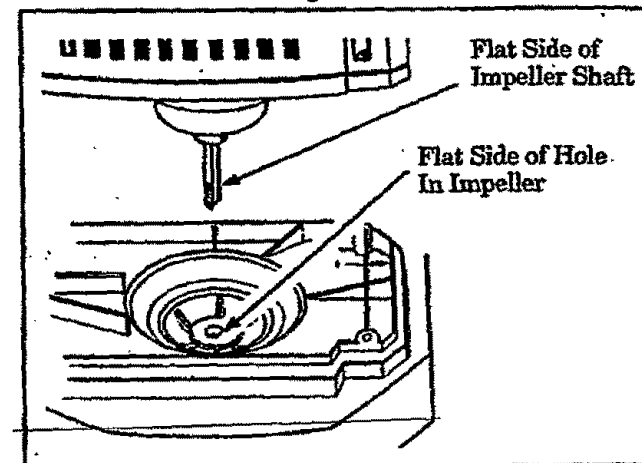

Figure 20
18. Align the hole in the impeller with the impeller shaft, making sure the flat sides are aligned. Figure 20.